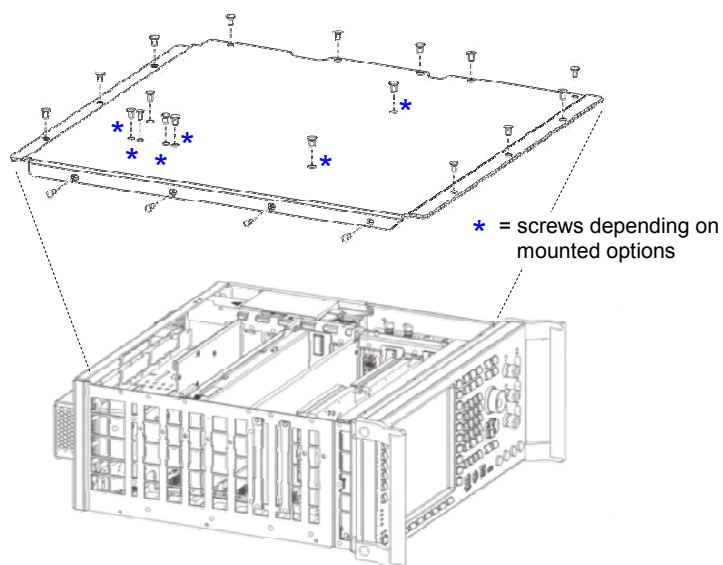

Figure 5 Removing the cover
- g Undo the screws as shown at the top of the instrument frame. Lift off the cover (see Figure 5).